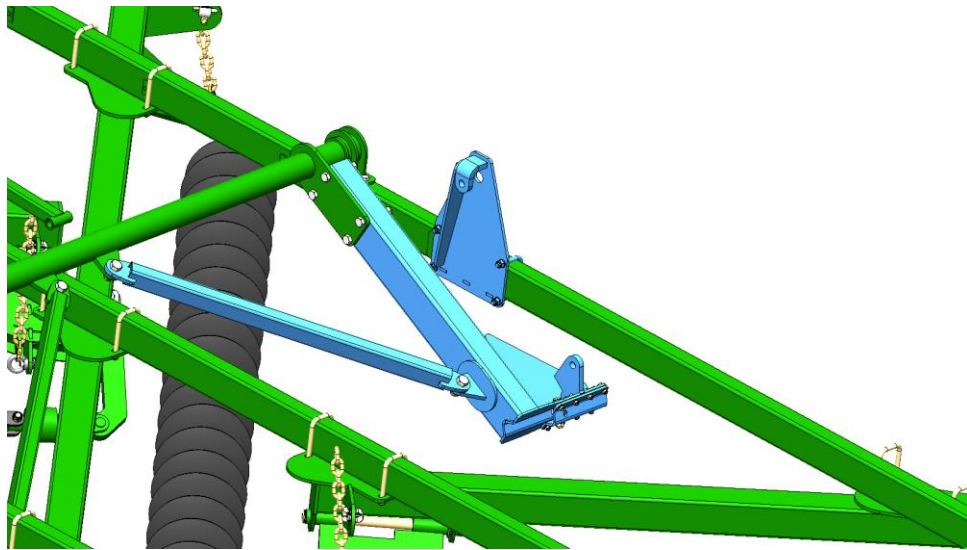

Figure 2: Components to be removed – RH axle assembly
4. Unbolt and remove all components highlighted in Figure 2 (repeat for LH axle assembly). These components are no longer required (CAUTION – Heavy components. Ensure that safe lifting practices are employed)